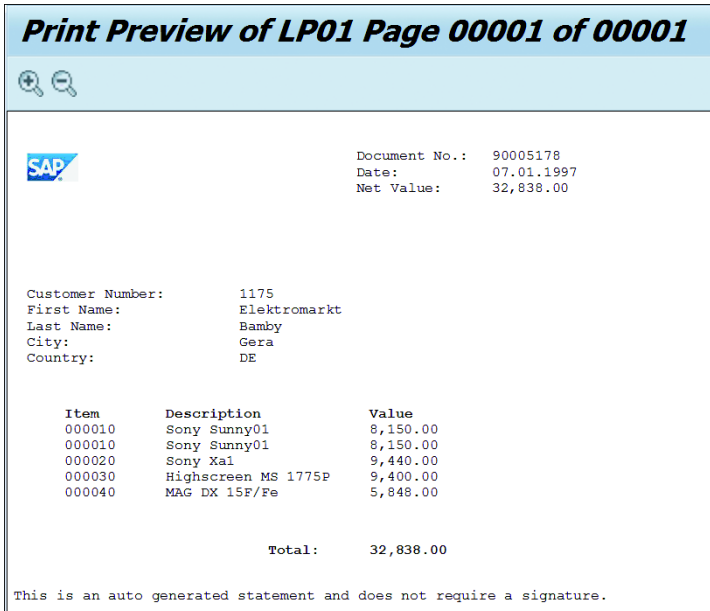

Figure 18.26 Final Formatted Output
6. Similarly, edit the text elements of other windows to use tab positions and adjust the window widths if required. The final output should look similar to Figure 18.26.